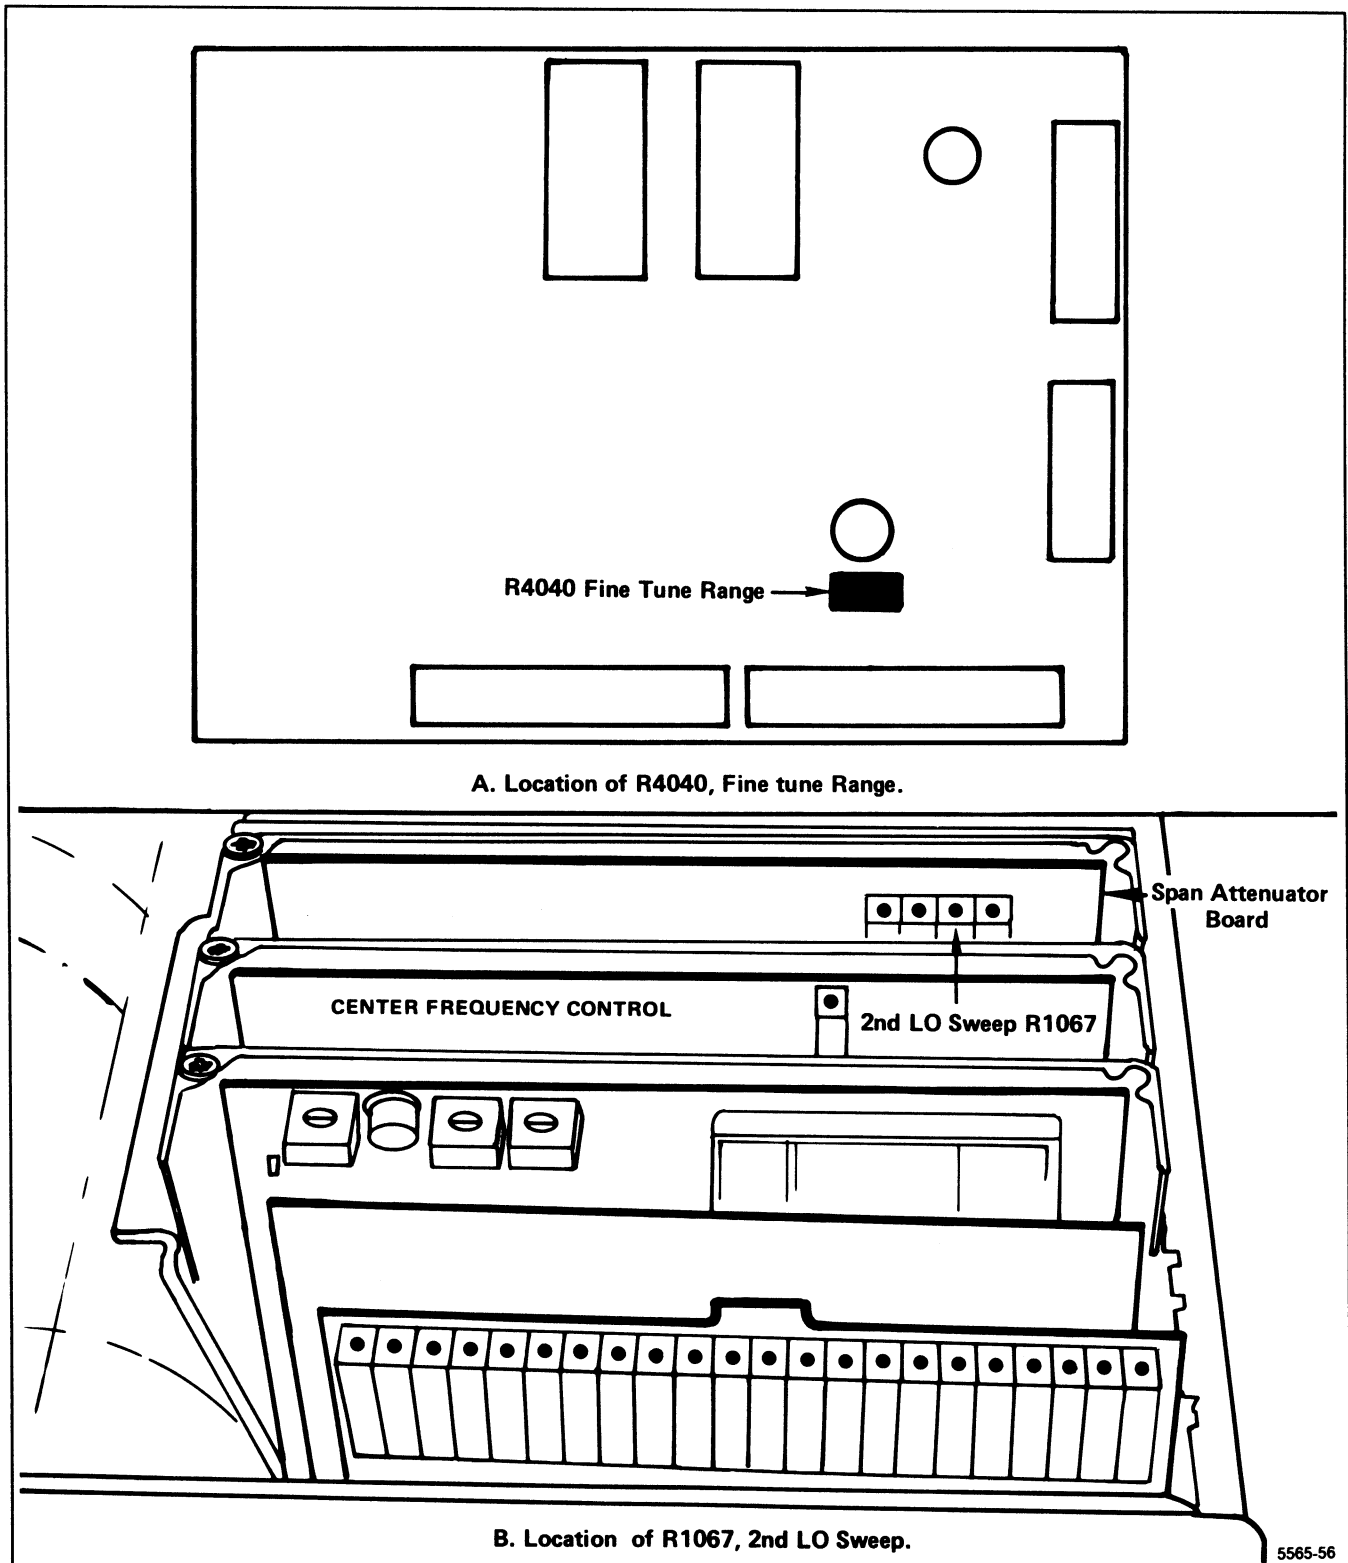

Figure 6-24. Tune and Sweep Range adjustments.
a. Center the Fine Tune adjustment R4040, on the Center Frequency Control board and the 2nd LO Sweep adjustment R1067, on the Span Attenuator board (Figure 6-24).
c. Press <SHIFT> 7 to disable frequency correction; then press <SHIFT> 0, and select item 0 from the menu. Now select frequency display of 2nd LO (2). Readout will now indicate the 2nd LO frequency.
c. Adjust the 2nd LO Sweep R1067, on the Span Attenuator board (Figure 6-24), so the comb lines on opposite sides of the screen, are exactly 8 major divisions apart.